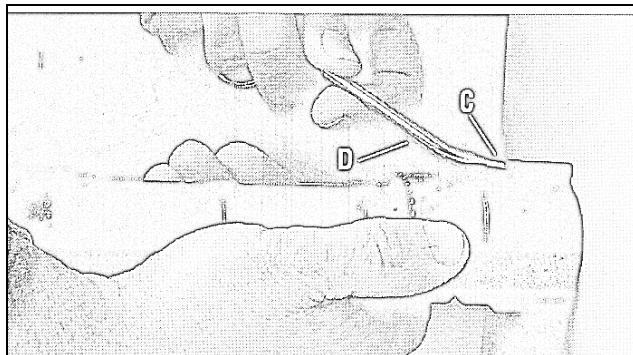

Figure 2.2
2-3.4. Connect S75 plasma gun. Attach the male connector (torch side) to the female one (machine side). Make sure that the positioning pin aligns with the corresponding notch, then use enclosed tool (D) to disengage the anti-rotation device by pressing it on proper hole (C). To disconnect torch also need press enclosed tool to the hole. Finally, remove the tool and continue to fasten the ring until hear clicking. See figure 2.2.